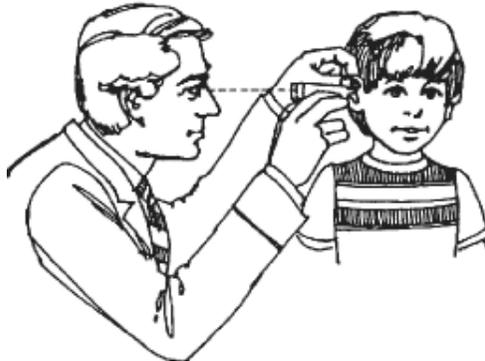

Figure 9: Positioning the probe (226 Hz only probe).
4. Position the probe up against the entrance of the ear canal, applying a gentle pressure to maintain a tight seal (Figure 9).